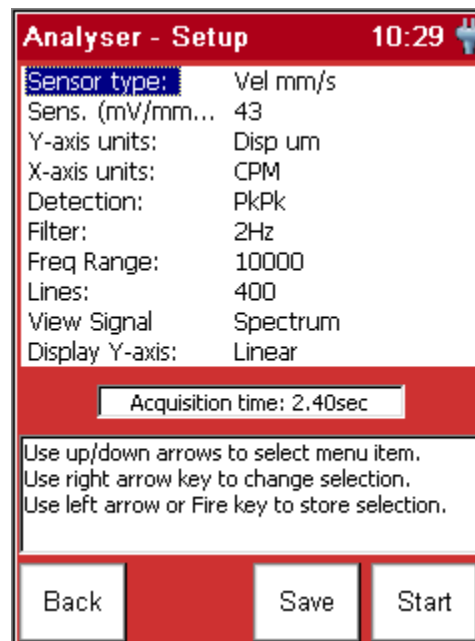

Figure 3 - Metric Displacement (micrometers) 258 setup for 544/546
4. For **Metric** measurements in micrometers peak to peak, set the parameters in **bold** type as listed below. The other parameters may be set as desired by the user. See Figure 3 for a screen display of a typical Metric setup. This differs from the Imperial setup by the sensitivity parameter, 43 mv/EU (1080/25.4).